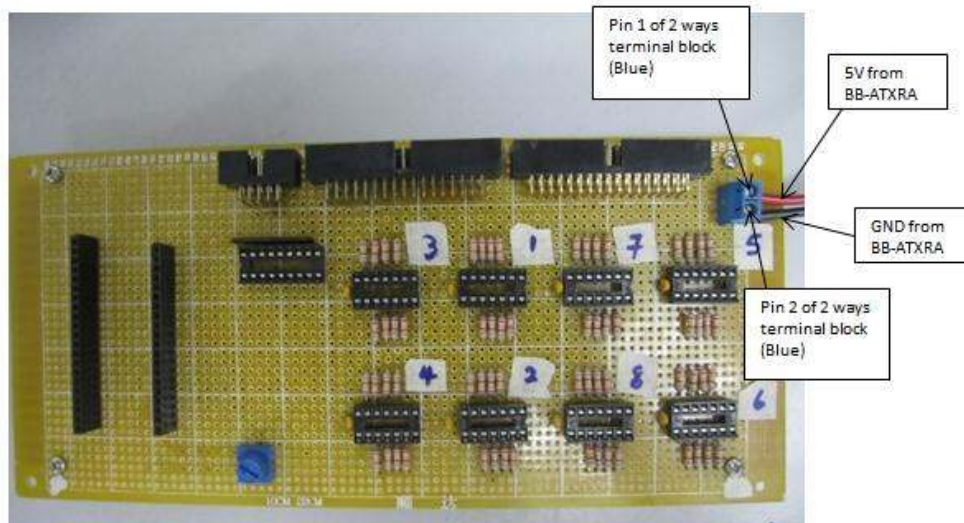

Figure 86: Connection of 5V supply from BB-ATXRA to microcontroller circuit board
3. As promised before, the microcontroller circuit has to be tested with DC power supply connected before plugin SK40C, ULN2803 IC and 74HC164N ICs. Connect the 5V supply from BB-ATXRA to 2 ways terminal block (Blue) of the microcontroller circuit board as shown in Figure 86.